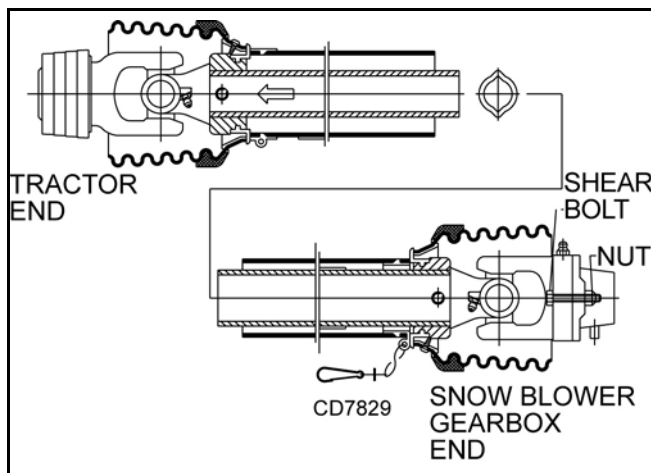

Figure 8. Shear Bolts
■ The height of snow discharge is controlled by position of chute deflector on discharge chute (8), Figure 8. Remove clevis pin (5), and slide adjustment strap (9) to selected discharge height. Reinstall clevis pin (5).